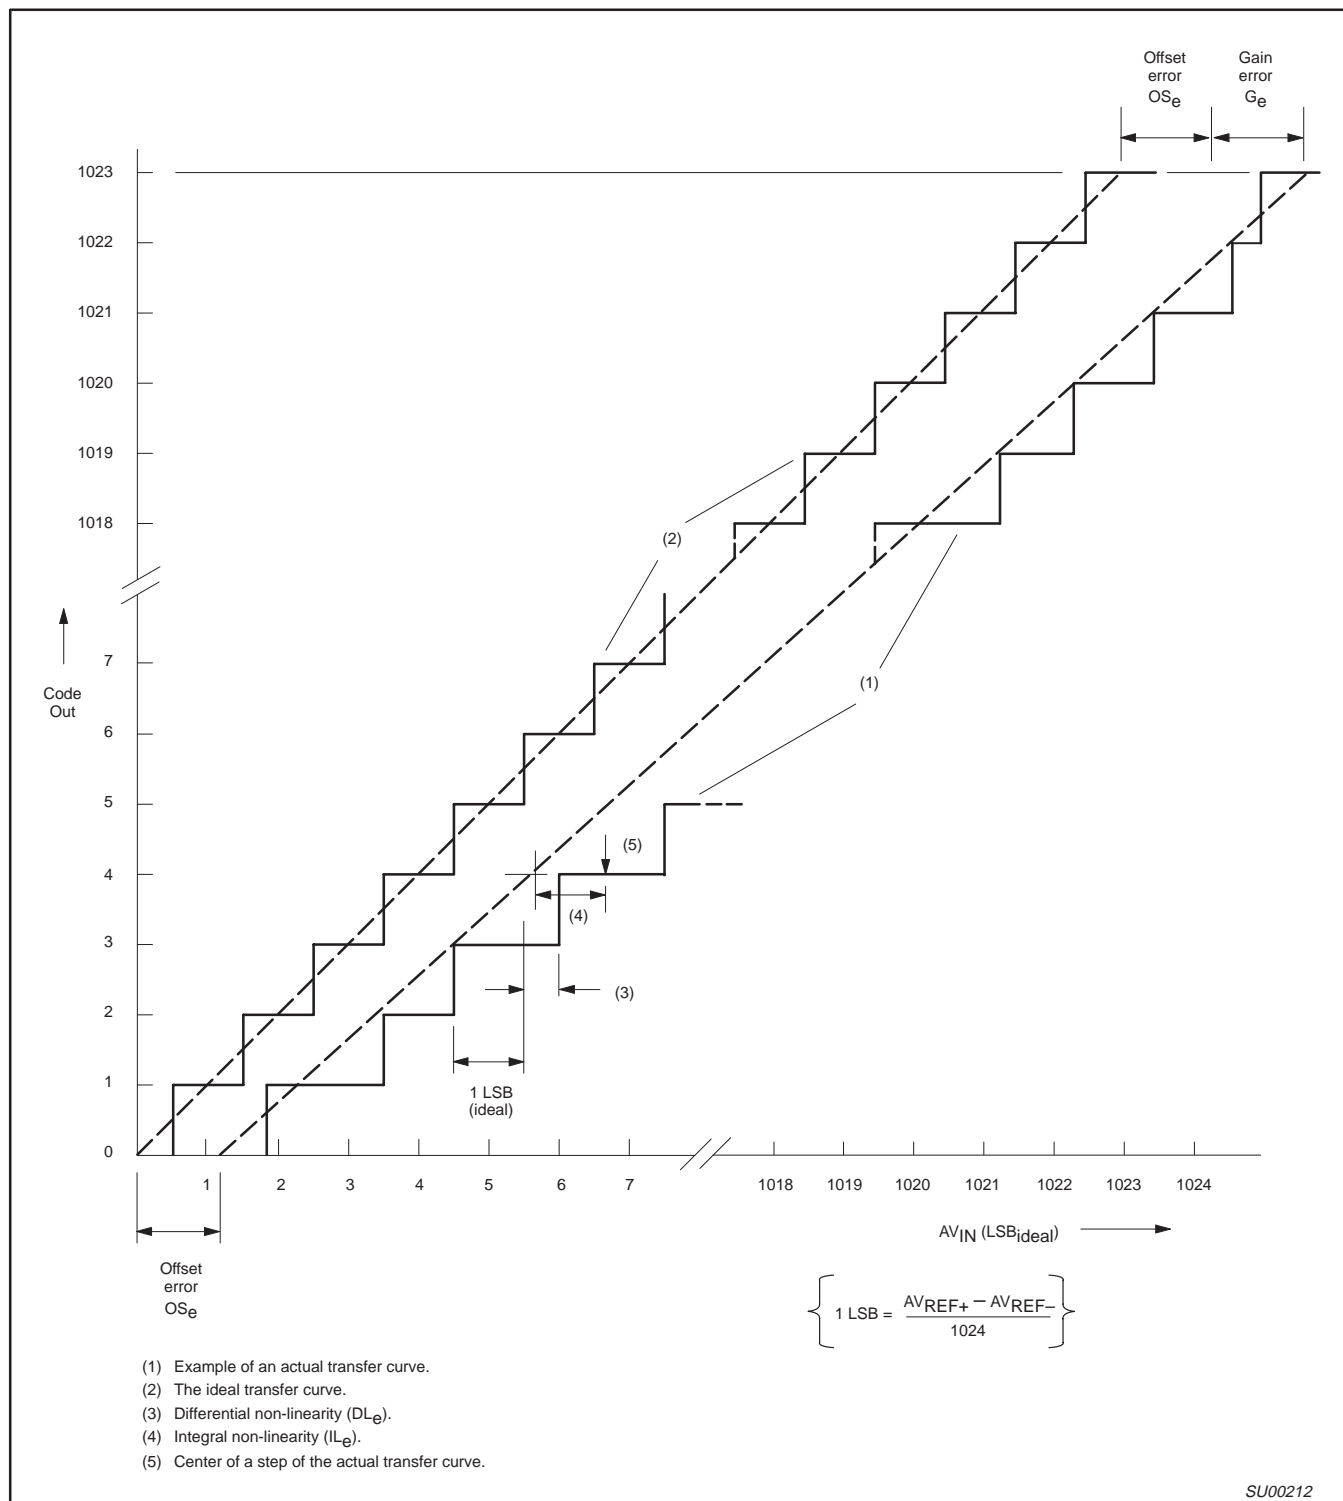

Figure 47. ADC Conversion Characteristic
- The differential non-linearity (DL_e) is the difference between the actual step width and the ideal step width. (See Figure 47.)
- The integral non-linearity (IL_e) is the peak difference between the center of the steps of the actual and the ideal transfer curve after appropriate adjustment of gain and offset error. (See Figure 47.)
- The offset error (OS_e) is the absolute difference between the straight line which fits the actual transfer curve, and a straight line which fits the ideal transfer curve. (See Figure 47.)
- The gain error (G_e) is the relative difference in percent between the straight line fitting the actual transfer curve (after removing offset error), and the straight line which fits the ideal transfer curve. Gain error is constant at every point on the transfer curve. (See Figure 47.)